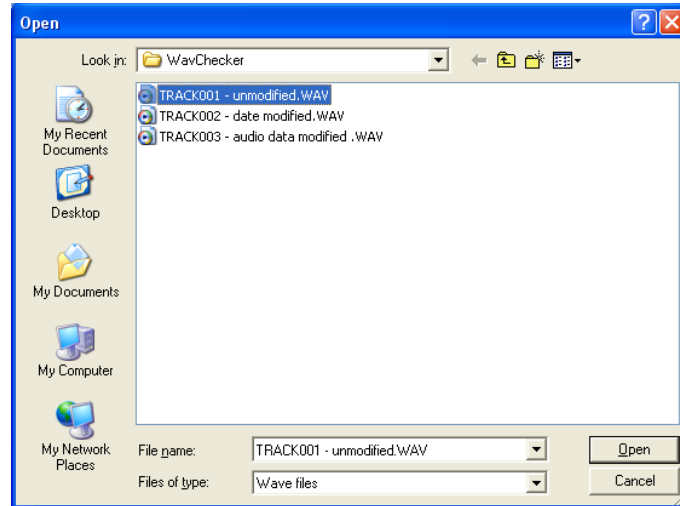
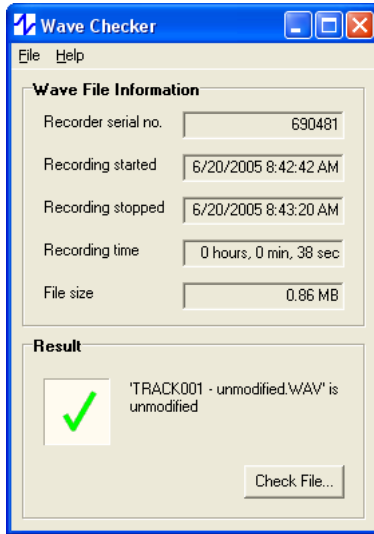
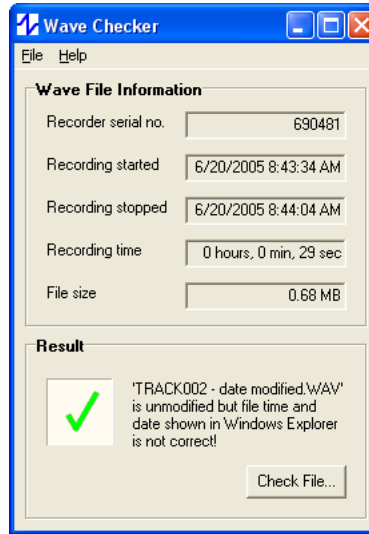
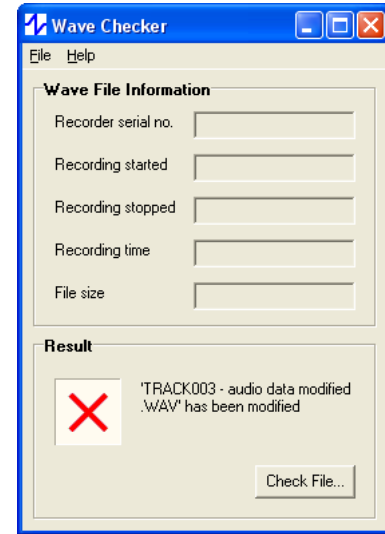

Fig. 2. The Windows Open dialog box.
Fig. 3. Result: Unmodified wave file.
Fig. 4. Result: Unmodified wave file but time/date not correct.
Fig. 5. Result: Wave file audio has been modified.
2. Click the **Check File** button. A Windows **Open** dialog box (Fig.2.) displays.
3. Navigate to the (.wav) file that you want to authenticate and select the file. Click the **Open** button (Fig. 2). One of three results will display: Unmodified (Fig. 3.), Unmodified but date/time not correct (Fig. 4.), or Audio data modified (Fig. 5.).
The result shown in Figure 3 indicates that the file is trustworthy.
In the example in Figure 4, the audio was not modified, but the time and/or date information contained inside the .wav file does not agree with the file's date/time stamp, indicating that it may have been tampered with.
In the Figure 5 example, the wave file audio has itself been modified and cannot be trusted.